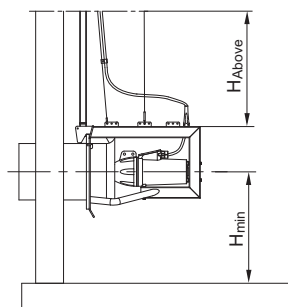

Fig. 1 Distance to liquid surface and tank bottom
- The distance from the centre of the pump to the tank bottom ($H_{\min}$) must be equal to the impeller diameter. See fig. 1.
- For pumps without vortex shield, the distance must at least be equal to 1.5 times the impeller diameter. See fig. 1.